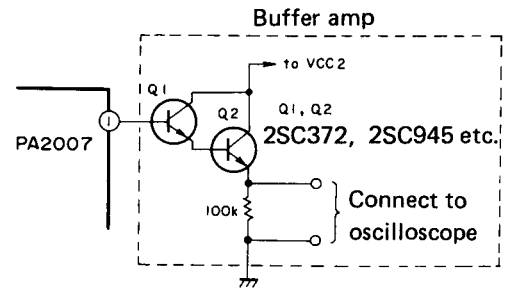

Fig. 11-4 Buffer amp connection
2. Connect the self made buffer amp such as (Fig. 11.4) to the #1 terminal of IC PA2007 and output the waveform to a oscilloscope (Fig. 11-4).